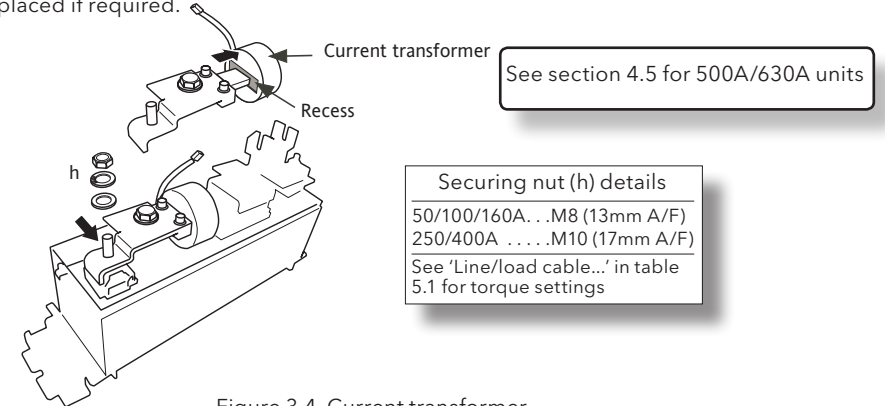

Figure 3.4 Current transformer (400A module shown; other modules similar but see section 4.5 for 500A/630A modules)
3. Re-assembly is the reverse of the disassembly procedure followed so far. Ensure when re-fitting the current transformer, that it is oriented correctly as shown in figure 3.4, and that the harness is retained by the plastic retaining loop attached to the power board.
1. Disconnect the flying-lead connector ('g' in figure 3.4) from the power board.